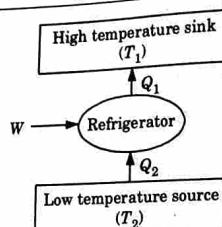

Fig. 1.20.2. A schematic diagram of a refrigerator.
3. The desired effect of a refrigerator, under a steady state, is to pump out the heat in the same rate as is infiltrating into the system ( $Q_2$ ). And in order to do so, the refrigerator takes up  $W$  amount of external work (Fig. 1.20.2).